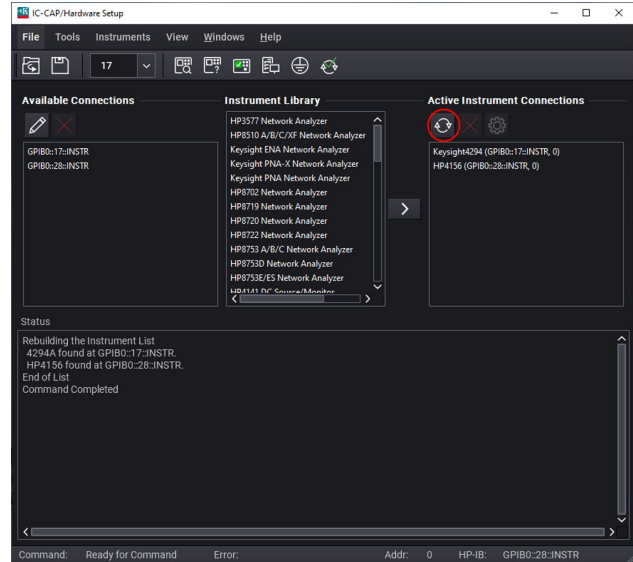

Fig. 1.3. Active instrument connections.
- 1.12 Under "Active Instrument Connections," click on  to "Rebuild Active Instrument." Once it is finished, confirm that both "Keysight4294" and "HP4156" are listed under "Active Instrument Connections" as shown in Fig. 1.3. (The names are historical, because HP became Agilent, then Agilent became Keysight). Close the "IC-CAP/Hardware Setup" window and get back to the home screen of "DC_Test."